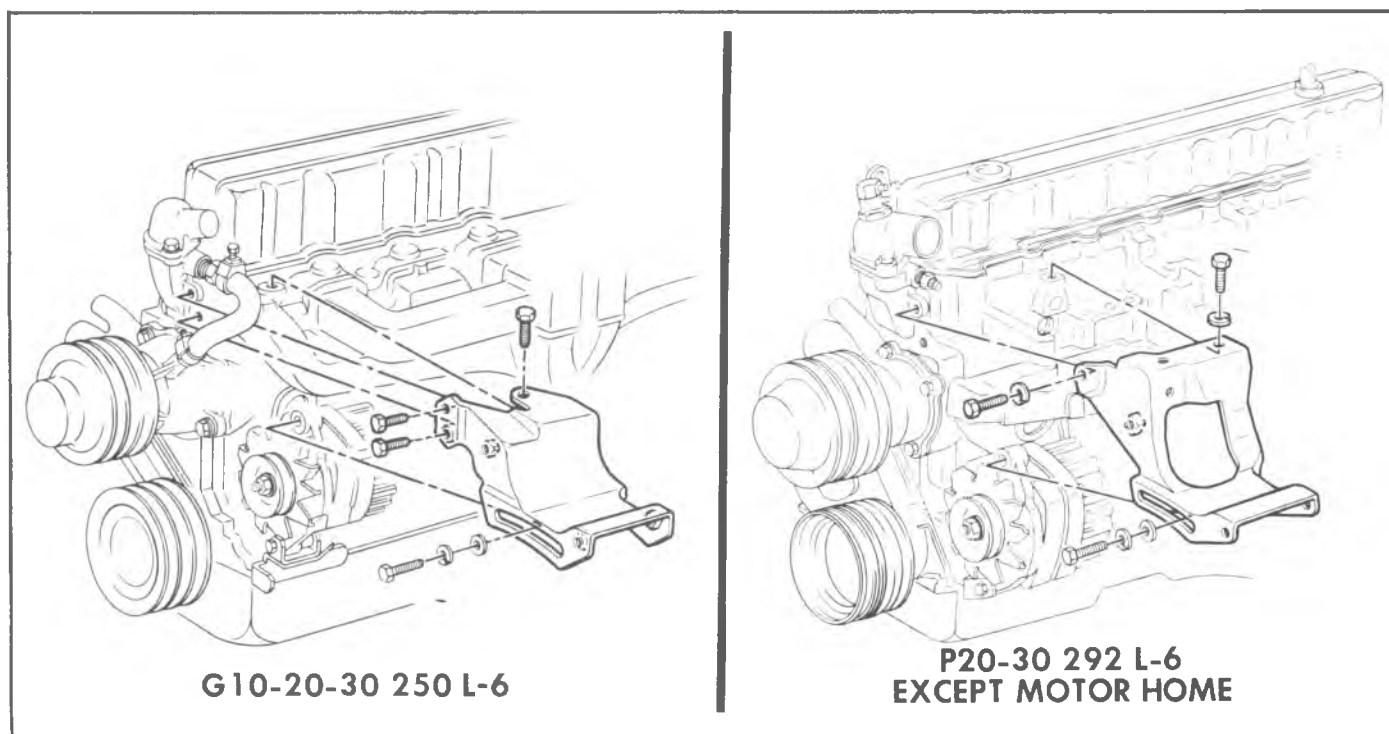

Fig. 6—Power Steering Pump Mounting.
### POWER STEERING PUMP (Fig. 6)
1. Position pump assembly on vehicle (Fig. 6) and install attaching parts loosely.